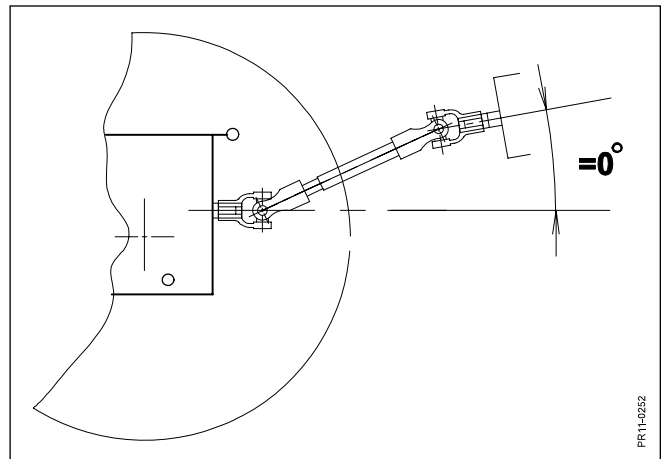

Fig. 2-4
- Fig. 2-4 e) The PTO of the tractor and the PIC (power in-take) of the machine must be parallel, i.e. the angle between the two must be as close to  $0^{\circ}$  as possible.